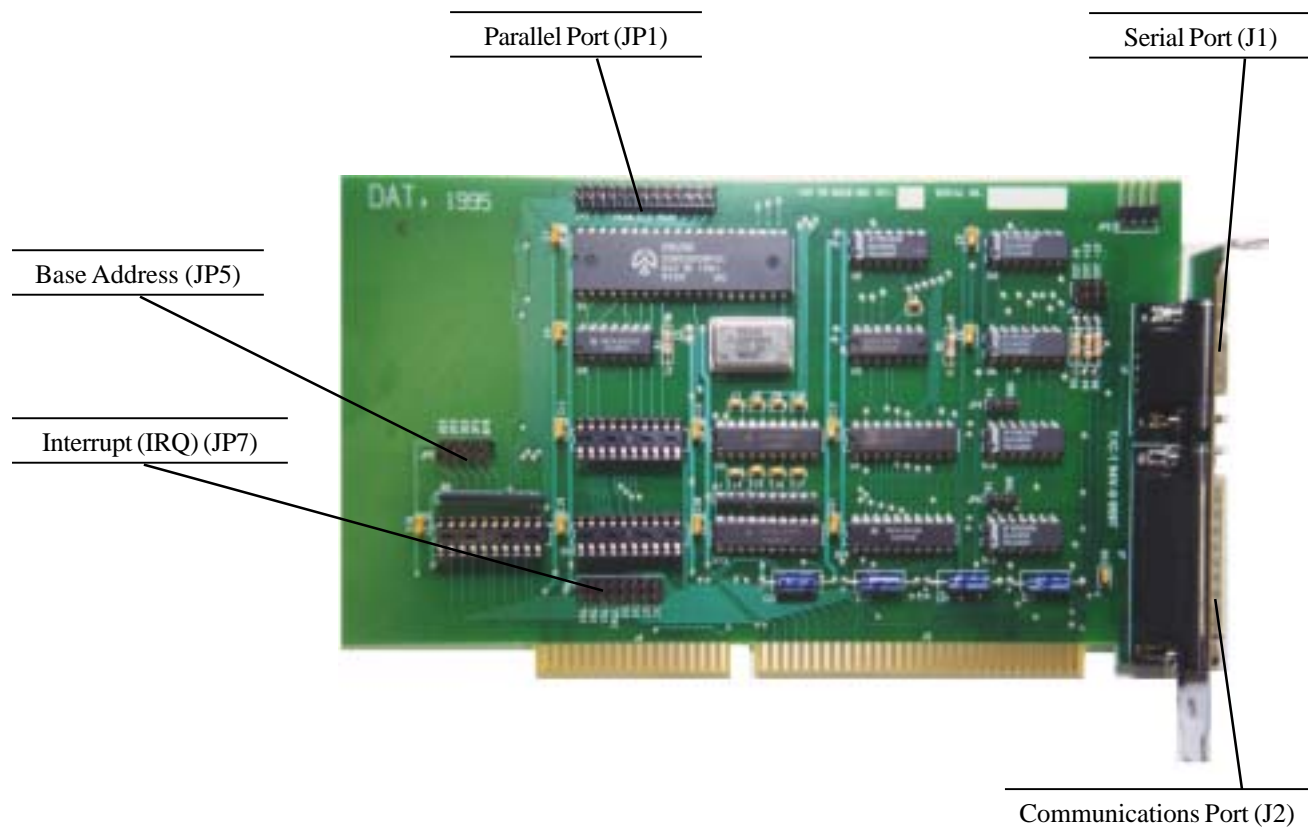
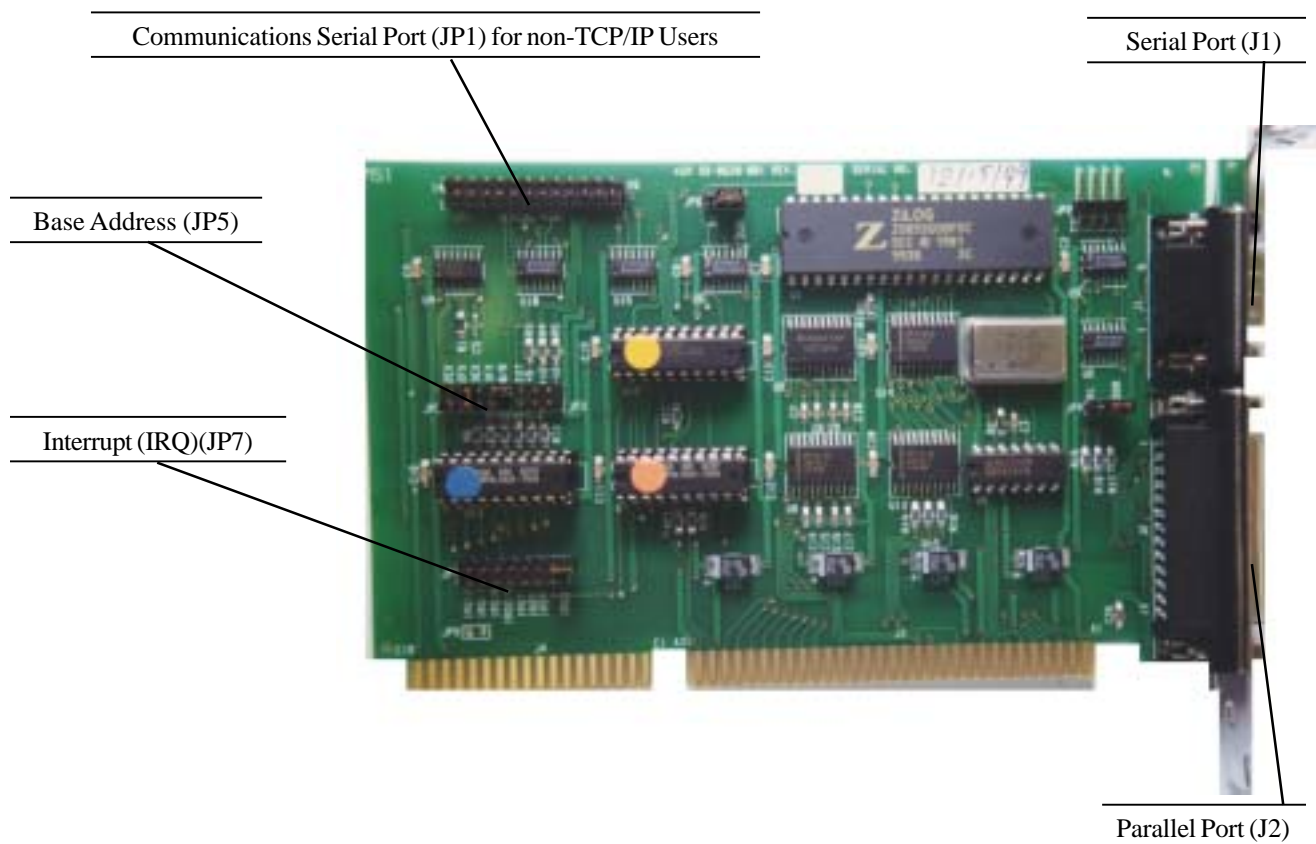

Figure 1.1 Legacy Enhanced 8530 Card
Figure 1.2 Enhanced 8530 card
LINXX-2010 may be supplied with one of three different interface cards, depending on your type of system. It is important to identify the type of card that is being installed and the hardware resources that it uses. The resources used include the Base Address of the card and the Interrupt level. To identify the type of card you are installing, please reference Figures 1.1, 1.2, and 1.3.
The Legacy Enhanced 8530 card is depicted in Figure 1.1; it is an older, larger card (4.5 in. x 8 in.) as compared to the smaller (4 in. x 6 in.) Enhanced 8530 card (see Figure 1-2). This single-user card has selectable Interrupts 2, 3, 4, 5, 7, 9, 10, 11, and 12, and can be selected to occupy the Base Addresses of 3F8, 2F0, 2F8, 3E0, 2E0, or 2E8. There are jumpers on this card with indicators that permit the settings to be constructed. These settings must match those defined in the Communications Task configuration, under *General System Options*. If the main port is used for serial communications, the default is IRQ 5 at Address 3E0. If the main port is not used for serial communications, the default is Address 3E0, with no IRQ jumper set. It is recommended to keep these default settings unless hardware conflicts arise.
The *Interrupt Request lines* are defined by an eight-post jumper (indicated by JP7 in Figure 1.1) on the Legacy Enhanced 8530 card. Each setting is numbered, with the possible settings being 2, 3, 4, 5, 7, 9, 10, 11, and 12. To select an Interrupt setting, place the jumper over the posts to close the contacts denoted by the Interrupt jumper. The Datamaxx software will only allow an Interrupt line of 3, 4, 5, and 7 to be set.
The Base Address is defined by a five-post jumper (indicated by JP5 in Figure 1.1). This jumper set has four settings for the Base Address and one for a single setting that changes the last digit of the Address. The four settings are 3FX, 2FX, 3EX, and 2EX. Each is clearly marked by its corresponding jumper. The last digit (X) is controlled by the jumper post labelled 0/8. If this jumper is closed, the last digit will be an 8, thus making the Address choices 3F8, 2F8, 3E8, and 2E8. If this last jumper is open, the last digit will be 0, thus making the Address choices 2F0, 3E0, and 2E0. Note that, theoretically, a Base Address of 3F0 can be defined. This choice must not be used as it will conflict with other settings in the system, notably the diskette drive interface. The LINXX-2010® and LINXX-2020® software will not allow this value to be defined.
The Enhanced 8530 card is depicted in Figure 1.2. This card differs from the Legacy Enhanced 8530 card in that the dimensions of the Legacy Enhanced 8530 card are larger (4.5 in. x 8 in.) than those of the Enhanced 8530 card (4 in. x 6 in.). Additionally, in place of the communications port (illustrated in Figure 1.1), the Enhanced 8530 card has a parallel port used to attach a parallel printer. Agencies that use this card utilize a separate network interface card (NIC) for communications purposes; this is often the case when the communications protocol is TCP/IP. This single-user card has selectable Interrupts 2, 3, 4, 5, 7, 9, 10, 11, and 12, and can be selected to occupy the Base Addresses of 3F8, 2F0, 2F8, 3E0, 2E0, or 2E8. There are jumpers on the card with indicators that permit the settings to be constructed. These settings must match those defined in the Communications Task configuration, under *General System Options*. Because the main port is not used for serial communications, the default is Address 3E0, with no IRQ jumper set. It is recommended to keep these default settings unless hardware conflicts arise.
The *Interrupt Request lines* are defined by an eight-post jumper (indicated by JP7 in Figure 1.2) on the Enhanced 8530 card. Each setting is numbered, with the possible settings being 2, 3, 4, 5, 7, 9, 10, 11, and 12. To select an Interrupt setting, place the jumper over the posts to close the contacts denoted by the Interrupt jumper. The Datamaxx software will only allow an Interrupt line of 3, 4, 5, and 7 to be set.
The *Base Address* is defined by a five-post jumper (indicated by JP5 in Figure 1.2). This jumper set has four settings for the Base Address and one for a single setting that changes the last digit of the Address. The four settings are 3FX, 2FX, 3EX, and 2EX. Each is clearly marked by its corresponding jumper. The last digit (X) is controlled by the jumper post labelled 0/8. If this jumper is closed, the last digit will be an 8, thus making the Address choices 3F8, 2F8, 3E8, and 2E8. If this last jumper is open, the last digit will be 0, thus making the Address choices 2F0, 3E0, and 2E0. Note that theoretically a Base Address of 3F0 can be defined. This choice must not be used as it will conflict with other settings in the system, notably the diskette drive interface. The LINXX-2010® and LINXX-2020® software will not allow this value to be defined.